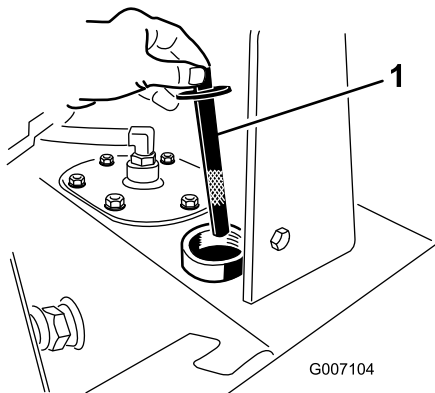

Figure 18
5. Check the fluid level on the dipstick (Figure 18).